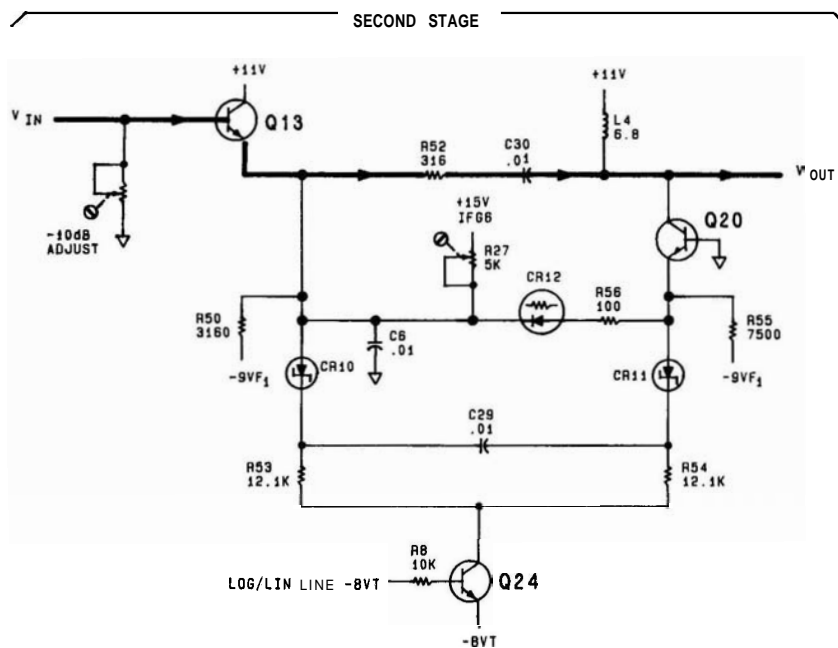

FIGURE 8-65. UNITY GAIN OPERATION IN LINEAR MODE, SIMPLIFIED SCHEMATIC
**Linear Mode of Operation.** Two simplified schematics illustrating unity and 10 dB gain of a typical linear stage are shown in Figures 8-65 and 8-66. In linear mode, the signal level dependent components are removed from the signal path and a linear display is provided. The  $-8$  VT is applied to the base of Q24, turning it off. This removes dc bias from CR10 and CR11. Total resistance  $R_T$  (primarily the resistance of R56 and CR12) is high, since CR12 is reverse-biased. Control line IFG6 is high and the stage gain is near unity. The signal flow is through emitter follower Q13 and R52, to 420. In stages six and seven, an alternate signal path is used to fix the gain at about 5 dB per stage, allowing for scale differences between Log and Lin modes. Both stages are activated by the  $-8$  VT from the Amplitude Scale switch through R34, R93, R101, CR25, and CR28. The combined stage gain is adjusted by R34 (LIN), which controls the dc PIN diode bias.